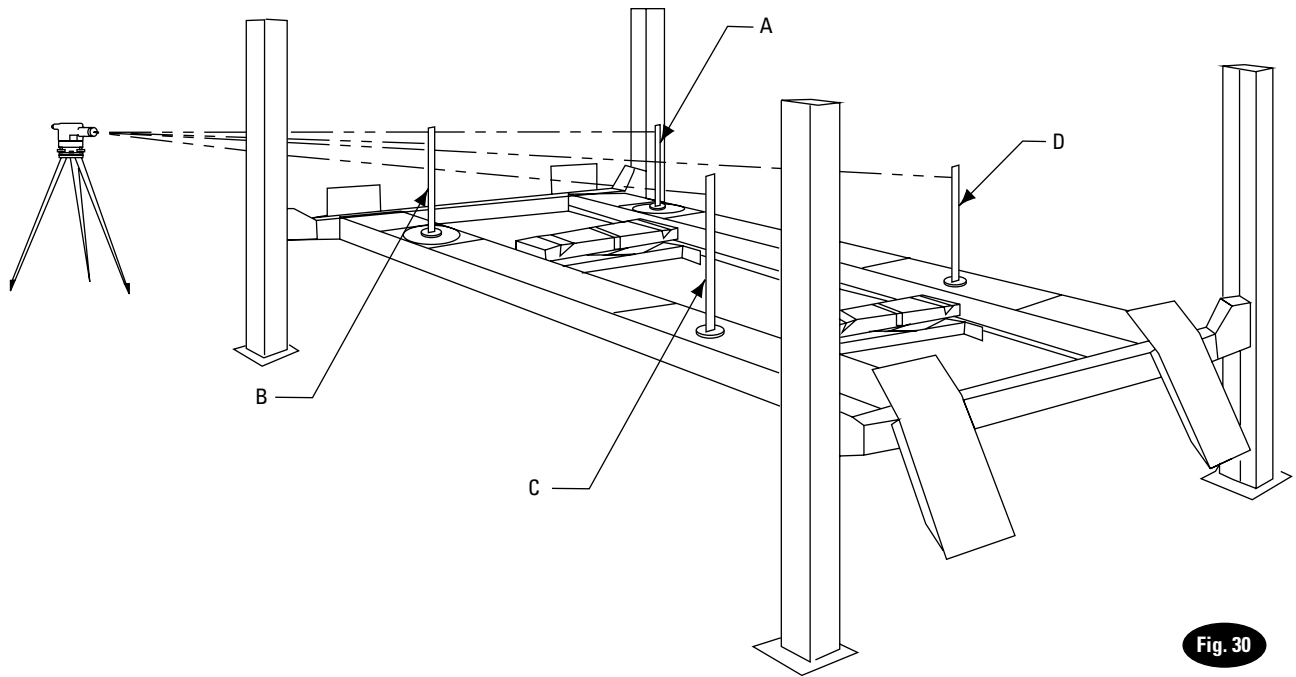

Fig. 30
- E. Next, move the target and place it on the turning radius gauge at point "B", Fig. 30.
- G. Adjust the adjustment nut on the locking latch plate adjustment stud at the top of the column at "B", Fig. 30, by loosening the jam nut and turning adjustment nut until the crosshairs of Level align to reference mark on the target scale.